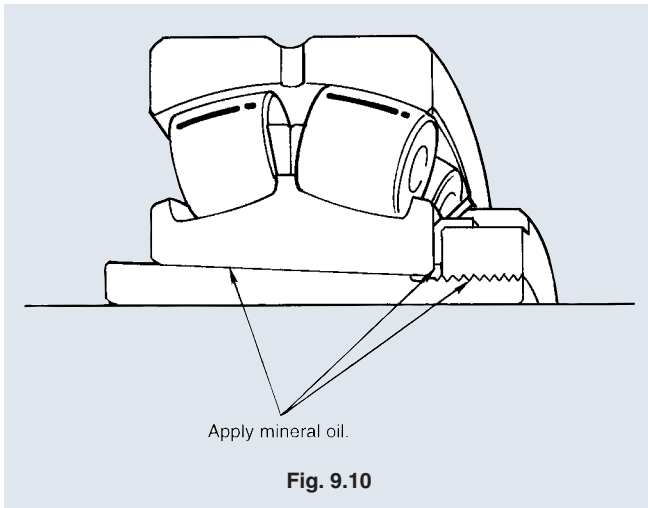

Fig. 9.10
- (1) Thinly apply highly viscous mineral oil to the taper, threading and the chamfered face of the nut (see **Fig. 9.10**) before press-fitting. In particular, apply molybdenum bisulfide paste to these areas on a large bearing. This prevents scuffing, and allows easy bearing removal. Before the installation work, remove oil from the shaft and the bore face of sleeve with a clean factory cloth.